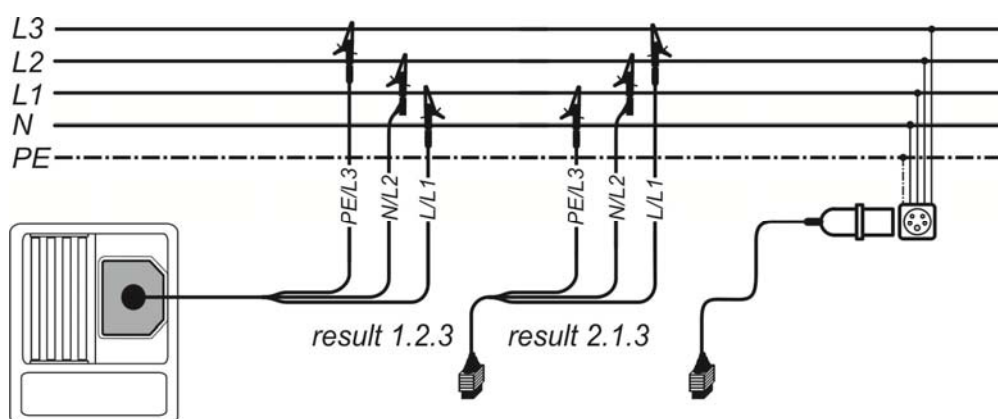
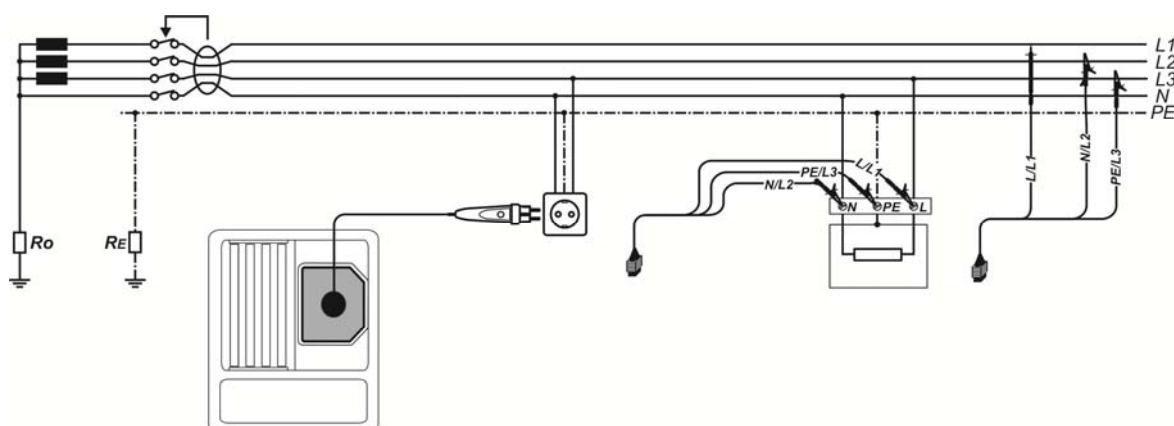

Figure 5.2: Connection of 3-wire test lead and optional adapter in three-phase system
Figure 5.3: Connection of plug commander and 3-wire test lead in single-phase system
- ❑ **Connect** test leads to the item to be tested (see *Figure 5.2* and *Figure 5.3*).